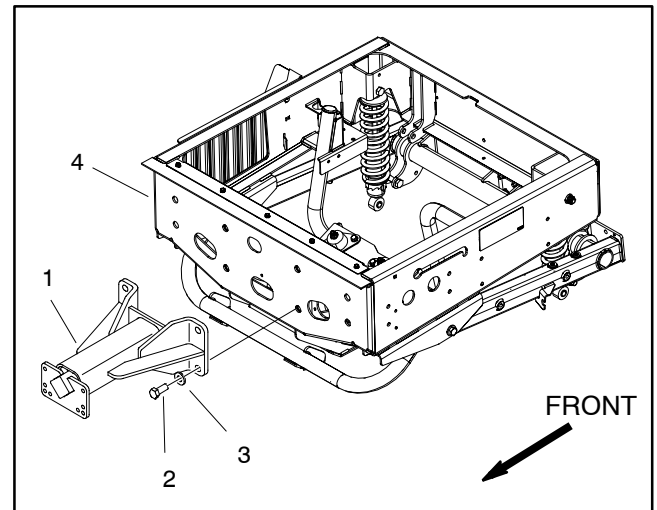

Figure 18
5. Remove four (4) cap screws and flat washers securing the pivot yoke to the rear frame (Fig. 18).
1. Position pivot yoke to the front frame so the diamond pattern faces up. Secure yoke to front frame with four (4) flange head screws and flanged lock nuts. Tighten lower two (2) fasteners first, then tighten upper two (2) fasteners.
3. Secure pivot yoke to the rear frame with four (4) cap screws and flat washers (Fig. 18).